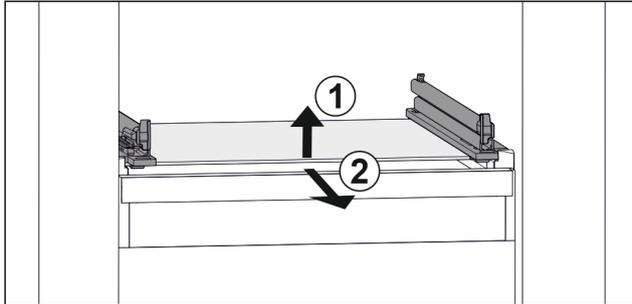

Fig. 27 Example illustration of glass shelf
- ▶ Lift glass shelf at the front. Fig. 27 (1)
- ▶ Take out glass shelf to the front. Fig. 27 (2)